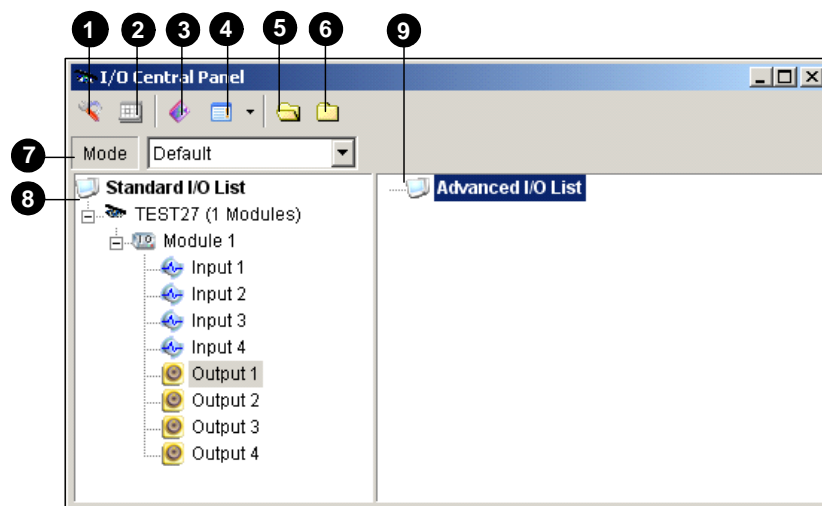

Figure 2-13
[Display Setting] You can define the nature of I/O devices by colors. Note that the setting only affects the **Detail** style of the Advanced I/O List (No. 4, Figure 2-13).
1. Click the Mode drop-down list (No. 7, Figure 2-13), and select **More Edit**. This dialog box appears.
4. To start the mode schedule, click the **Mode Schedule** button (No. 4, Figure 2-13), and then select **Mode Schedule Start**.
- To open the Quick Link window, click the **Toggle Quick Link** button. (No. 3, Figure 2-13).
1. To switch to the Icon style, click the **Advanced I/O List Style** button (No. 4, Figure 2-13) and then select **Icon**.